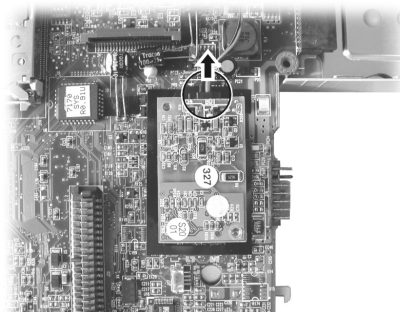

Figure 2-28
3. Disconnect the cable from the modem card. (Figure 2-28)